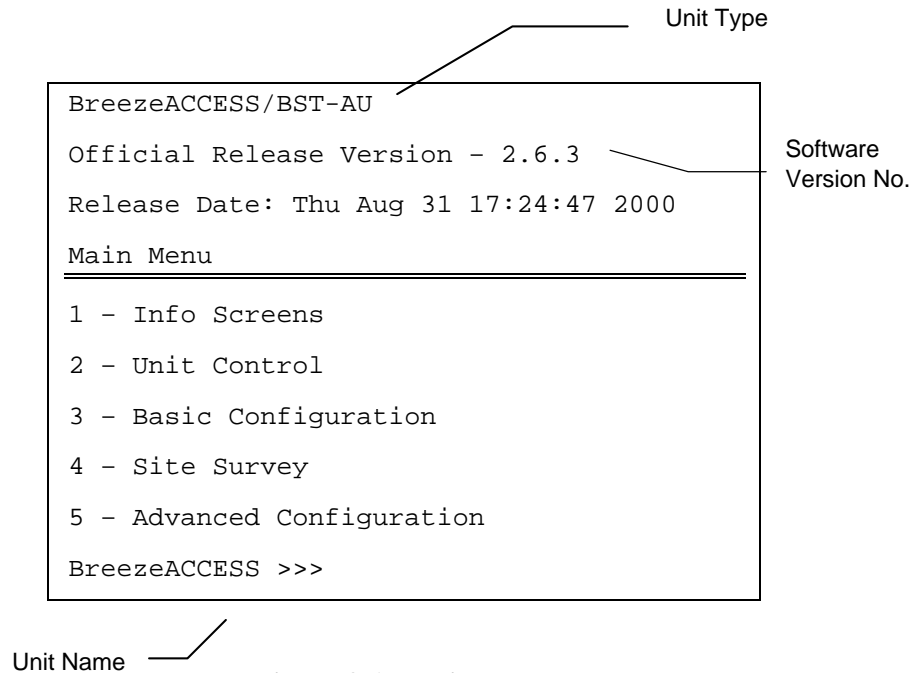

Figure 3-1. Main Menu
3. Press **Enter**. The *Select Access Level* menu appears. Select the access level according to your authorized access level. You will be requested to enter your password. After entering the correct password press the Enter key. The *main menu* appears as shown in Figure 3-1